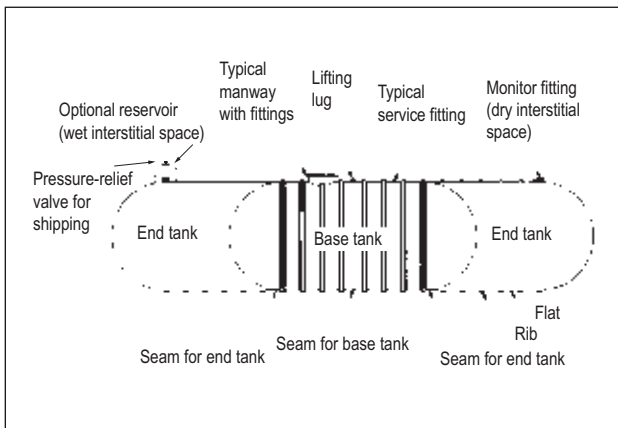

FIGURE 4-5
4.6.2.1. Install a test manifold in each compartment, that is, in the base tank and each end tank. (See FIGURE 4-5.)
4.7.2.1. Install a test manifold in each compartment, that is, in the base tank and each end tank. (See FIGURE 4-5.)